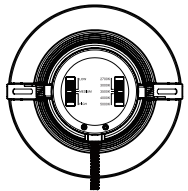

Fig. 1
- Step 1: Choose desired CCT & Wattage by simply switching the dip switch (Fig. 1).